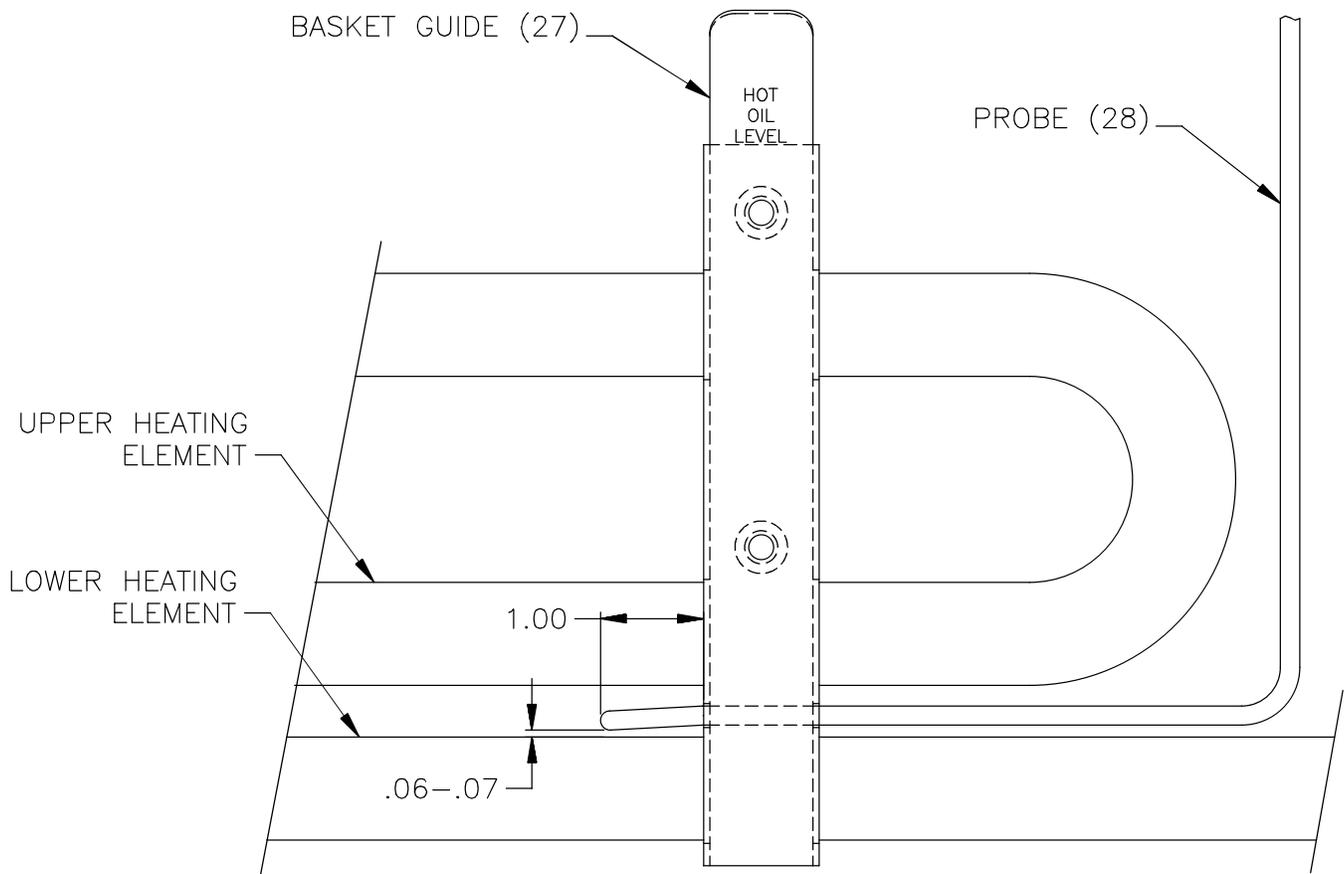

Fig. 1
2. Disconnect probe (23) wires.
4. Remove capillary guard (18) inside of cooking well.
5. Remove basket guide (27) inside of cooking well.
6. Slide item (27) off of Temperature Sensor probe (28). Note where probe bend is located. Placement is important.
7. Loosen compression nut (25).
8. Remove fitting (26) from reducer fitting (20).
9. Remove reducer fitting (20) from outside of the cooking well.
11. Install new probe in the same location as old probe. Slide guide (27) onto probe and assemble noting dimensions for locating probe (28). See Fig.1 below.
12. Use teflon tape on reducer fitting (20) and tighten securely. Install new fitting (26) into reducer fitting (20) using teflon tape.
13. Tighten compression nut (25).
14. Reconnect red and yellow wires (23).
20. Tighten compression nut (25) if necessary.